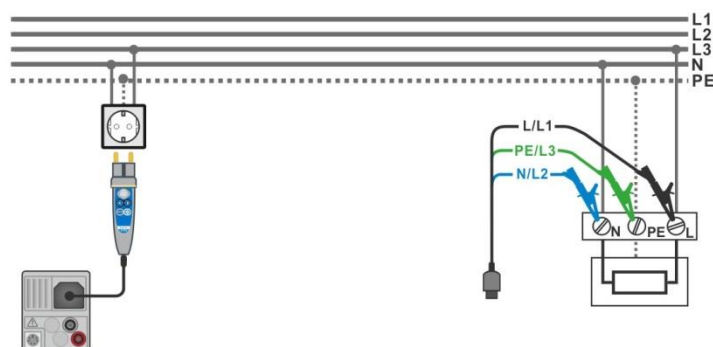

Figure 7.29: Connection of Plug commander and 3-wire test lead
- Connect test leads or Plug commander to the object under test, see **Figure 7.29**.